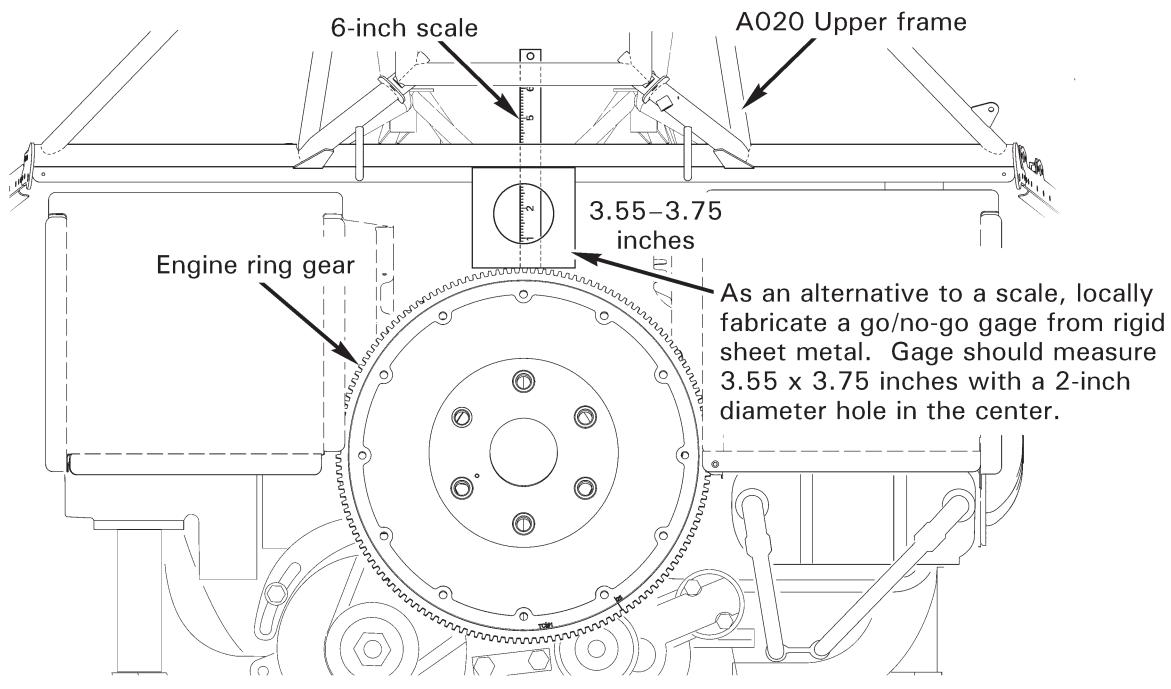

FIGURE 6-2 ENGINE INSTALLATION
- | 2. Measure ring gear-to-upper frame cross tube dimension as shown in Figure 6-2. If dimension exceeds 3.75 inches, an equal amount of shims must be added between lower frames and both the lower-left and the lower-right engine rubber mount pads. Use following formula to calculate required maximum shim thickness:
9. Engage clutch. Verify ring gear-to-upper frame cross tube dimension as shown in Figure 6-2. Adjust as required.